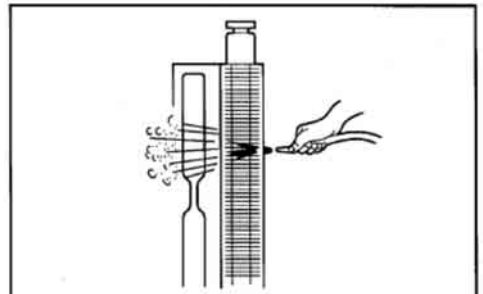

Fig.10.4. Cleaning radiator fins
- Checking and cleaning radiator fins (Fig.10.4.)